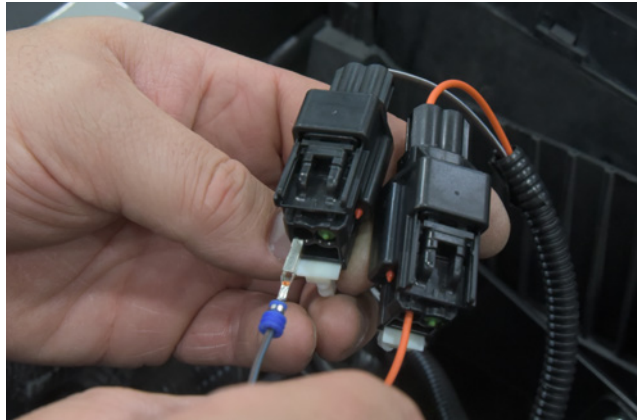

Figure 13
16. Insert the factory brown with blue stripe wire into the empty slot and reengage the connector lock (Fig. 13).